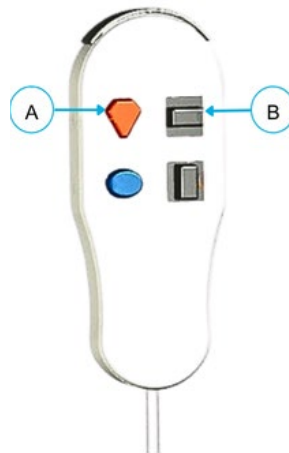

Figure 11-17: Controller Buttons
3. Push upward on the Needle Advance/Retract Button (**B**) on the Controller to deploy the Needle (Figure 11-17).